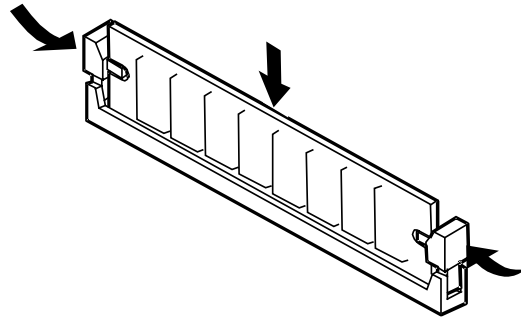

Figure 4-9. Inserting Memory DIMMs
7. Position the DIMM so that the two notches in the bottom edge of the DIMM align with the keyed socket. See Figure 4-9.